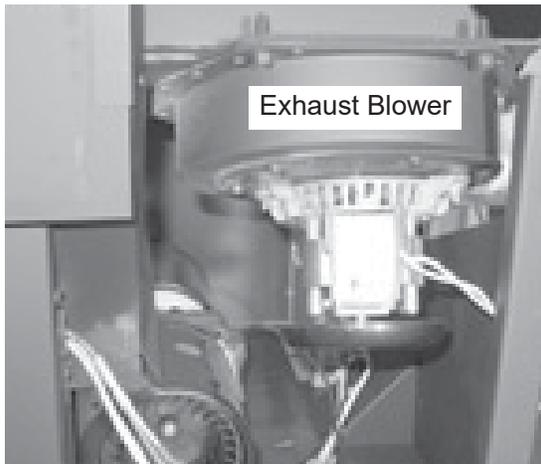

Figure 25.1
3. Disconnect two (2) white wires from the white and blue wires of the exhaust blower.
4. There is a removable plate on the exhaust blower. Depending on the model, use a 1/4 inch socket, or 1/4 inch Nut Driver or #2 Phillips Head screw driver to loosen the six (6) screws in the keyhole shaped holes and rotate the plate. It is only necessary to loosen screws (**Figure 25.1**).